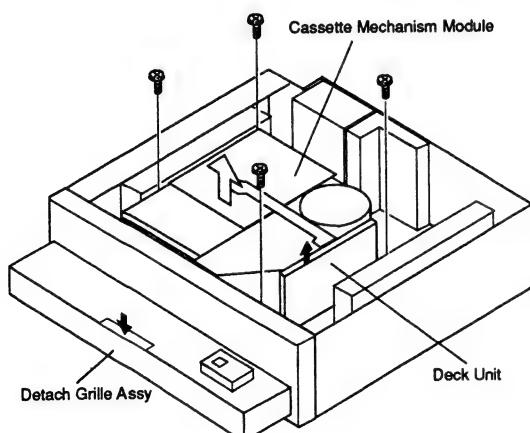

Fig.14
2. Press the button indicated by arrow and then remove the detach grille assy. (Fig.14)